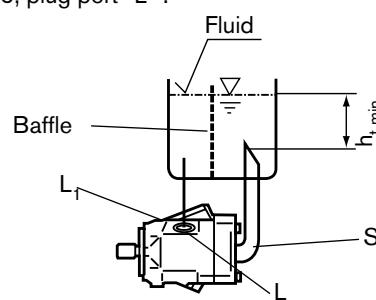

Fig. 5
b) Mounting below the reservoir: pipe ports "L1" and "S" acc. to fig. 5, plug port "L".